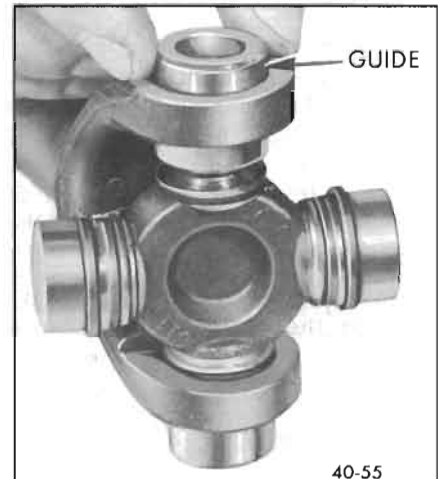

Figure 40-82—Installing Guide
5. Release pump and propeller shaft. Install Guide J-9522-8 through the bearing hole in the yoke and over the journal end of the spider. See Figure 40-82. This guide assures alignment of the spider while removing the opposite bearing.